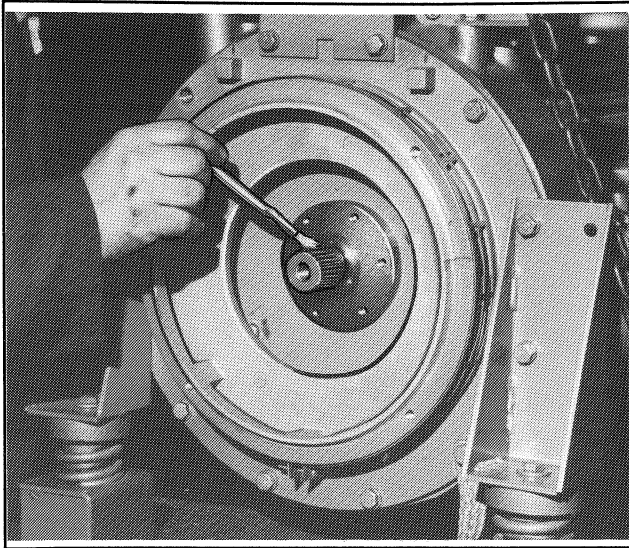
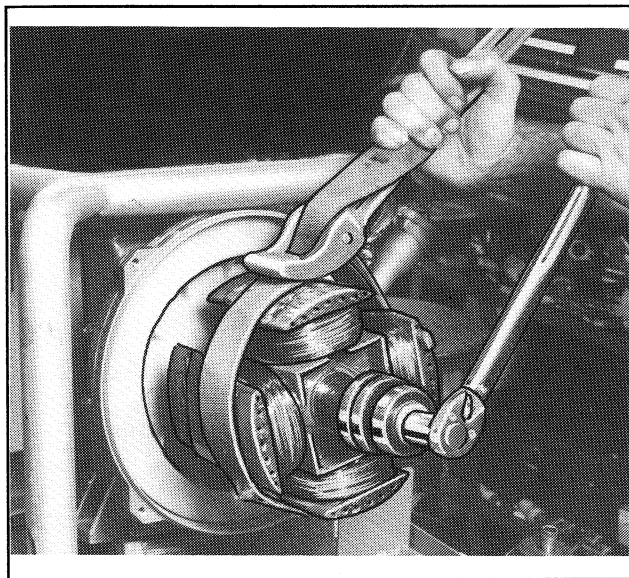

Figure 8-14. Applying Anti-Seize Compound
Figure 8-15. Torquing Thru-Bolt
5. On 9 and 12.5kW units, apply anti-seize compound to stub shaft as shown in Figure 8-14. Slide rotor onto tapered shaft and hand-tighten thru-bolt. Use a strap wrench to hold rotor while torquing thru-bolt to 50 ft. lbs. (68 Nm). See Figure 8-15.